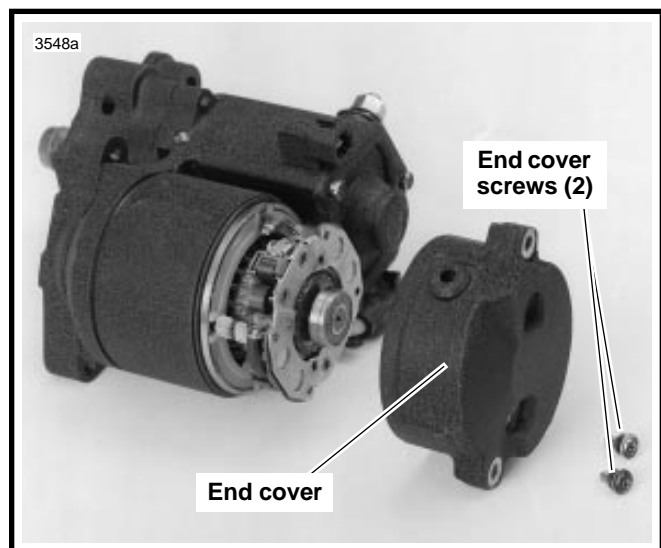

Figure 5-13. Removing End Cover
3. See Figure 5-13. Remove two end cover screws, O-rings, and end cover.